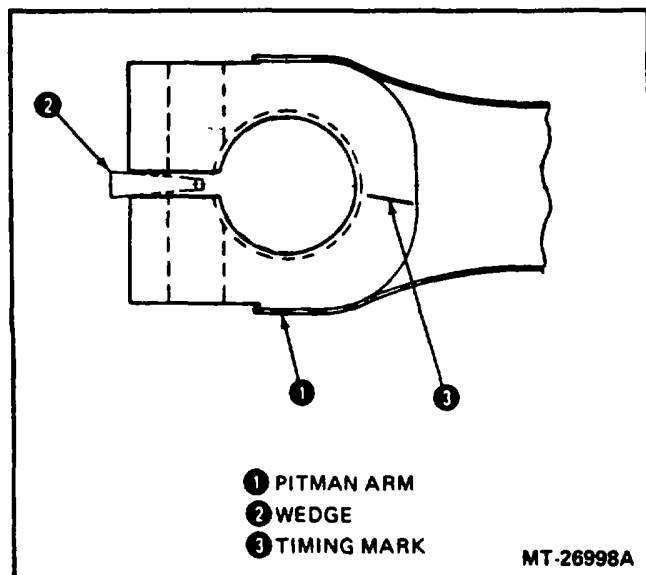

Figure 9 - Pitman Arm Removal
4. Drive wedge into slot in Pitman arm (Figure 9).